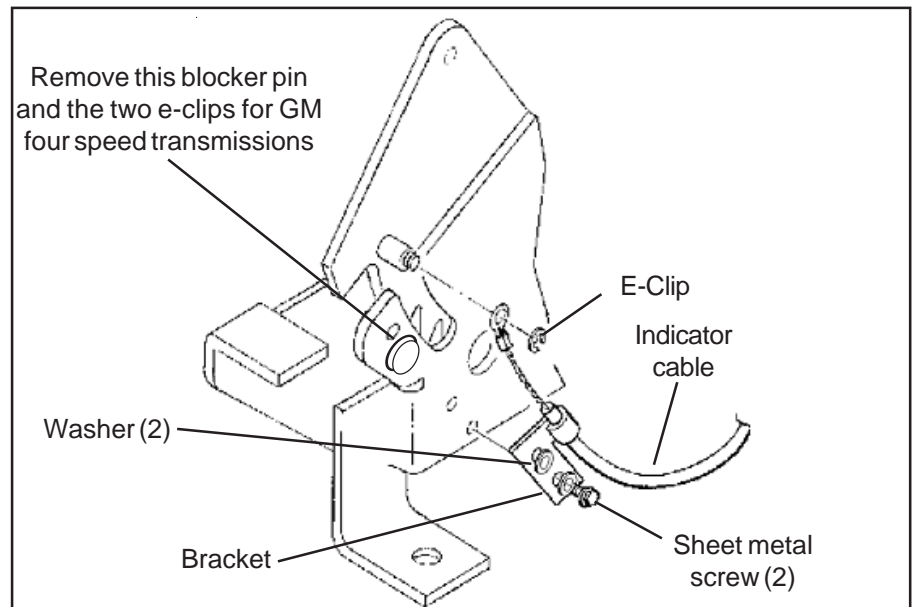

Figure 3
STEP 9. Just before the final installation of the shifter in the vehicle, attach the indicator cable to the side of the shifter as shown in **Figure 3**. The indicator cable bracket is secured to the shifter mechanism with two #6 x 3/4" sheet metal screws and #6 washers, the eyelet on the end of the indicator cable is secured to the cable pin by a supplied small e-clip.